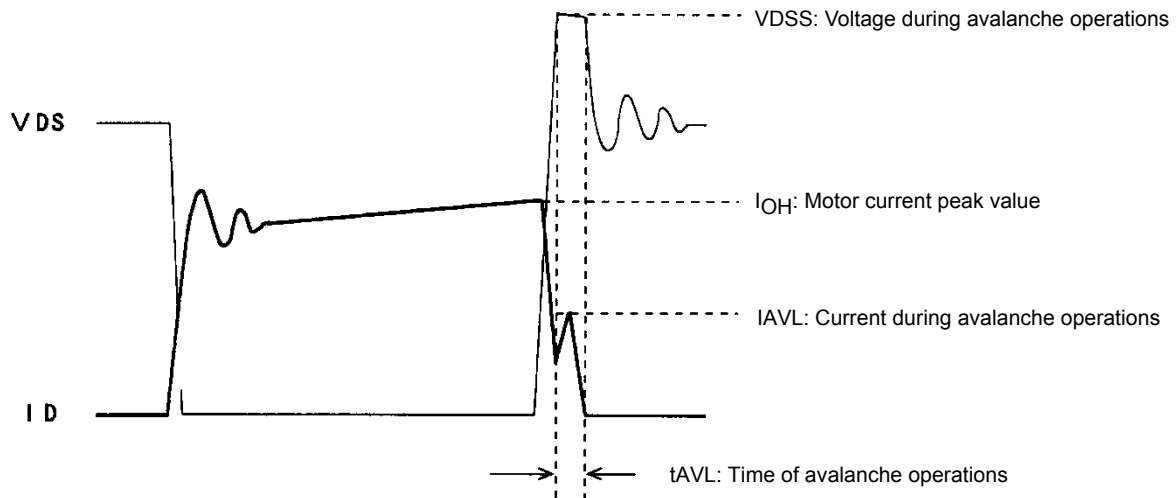

Figure 1 Output Current,  $I_D$ , and Voltage,  $V_{DS}$ , Waveforms 1 of the STK672-7\*\* Series when Driving a 2-Phase Motor with Constant Current Chopping
When driving a 2-phase Stepper motor with constant current chopping using an STK672-7\*\* Series hybrid IC, the waveforms shown in Figure 1 below result for the output current,  $I_D$ , and voltage,  $V_{DS}$ .
Although the waveforms during avalanche mode are given in Figure 1, sometimes an avalanche does not result during actual operations.
- Increases in  $V_{DS}$ ,  $t_{AVL}$ , and  $I_{AVL}$  in Figure 1 due to an increase in the supply voltage from 24V to 36V.